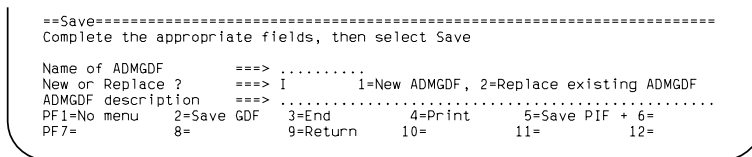

Figure 14. The Save GDF menu
2. Select "Save GDF" (PF2) from the Output menu. The Save menu is displayed, as in Figure 14.